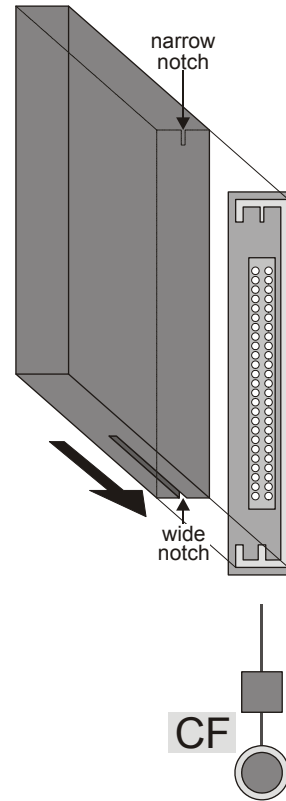

Fig. 6. Inserting a CF card into the slot
**NOTE:** Insert the CF card *carefully* and make sure that it has the proper orientation (see Fig. 6).